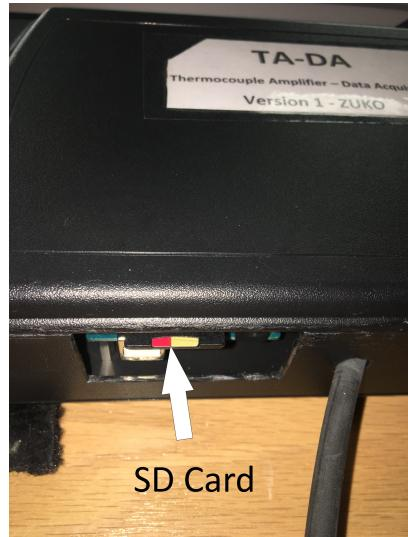

Figure 2: SD card slot location
6. Ensure a compatible SD card is inserted securely into the TADA datalogger (see Figure 2)